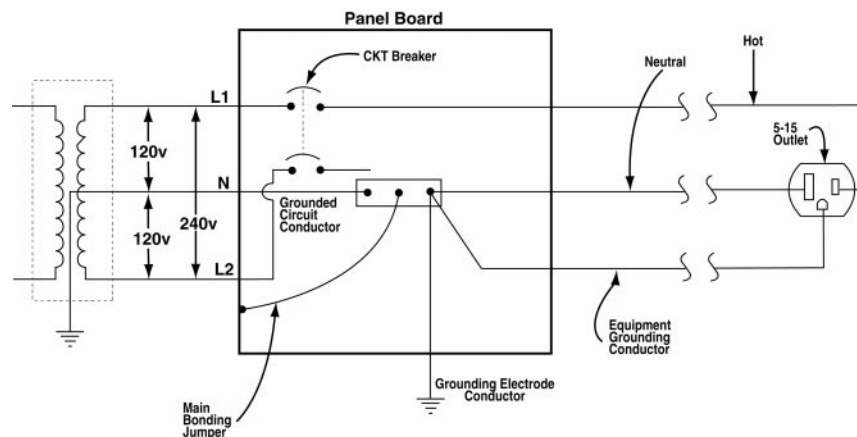

Fig 3 Outlet Configuration
- **Hot:** The hot conductor delivers energy to the load (telephone system) through the smaller vertical slot, see Fig 3. It connects to a fuse or breaker at the service panel.